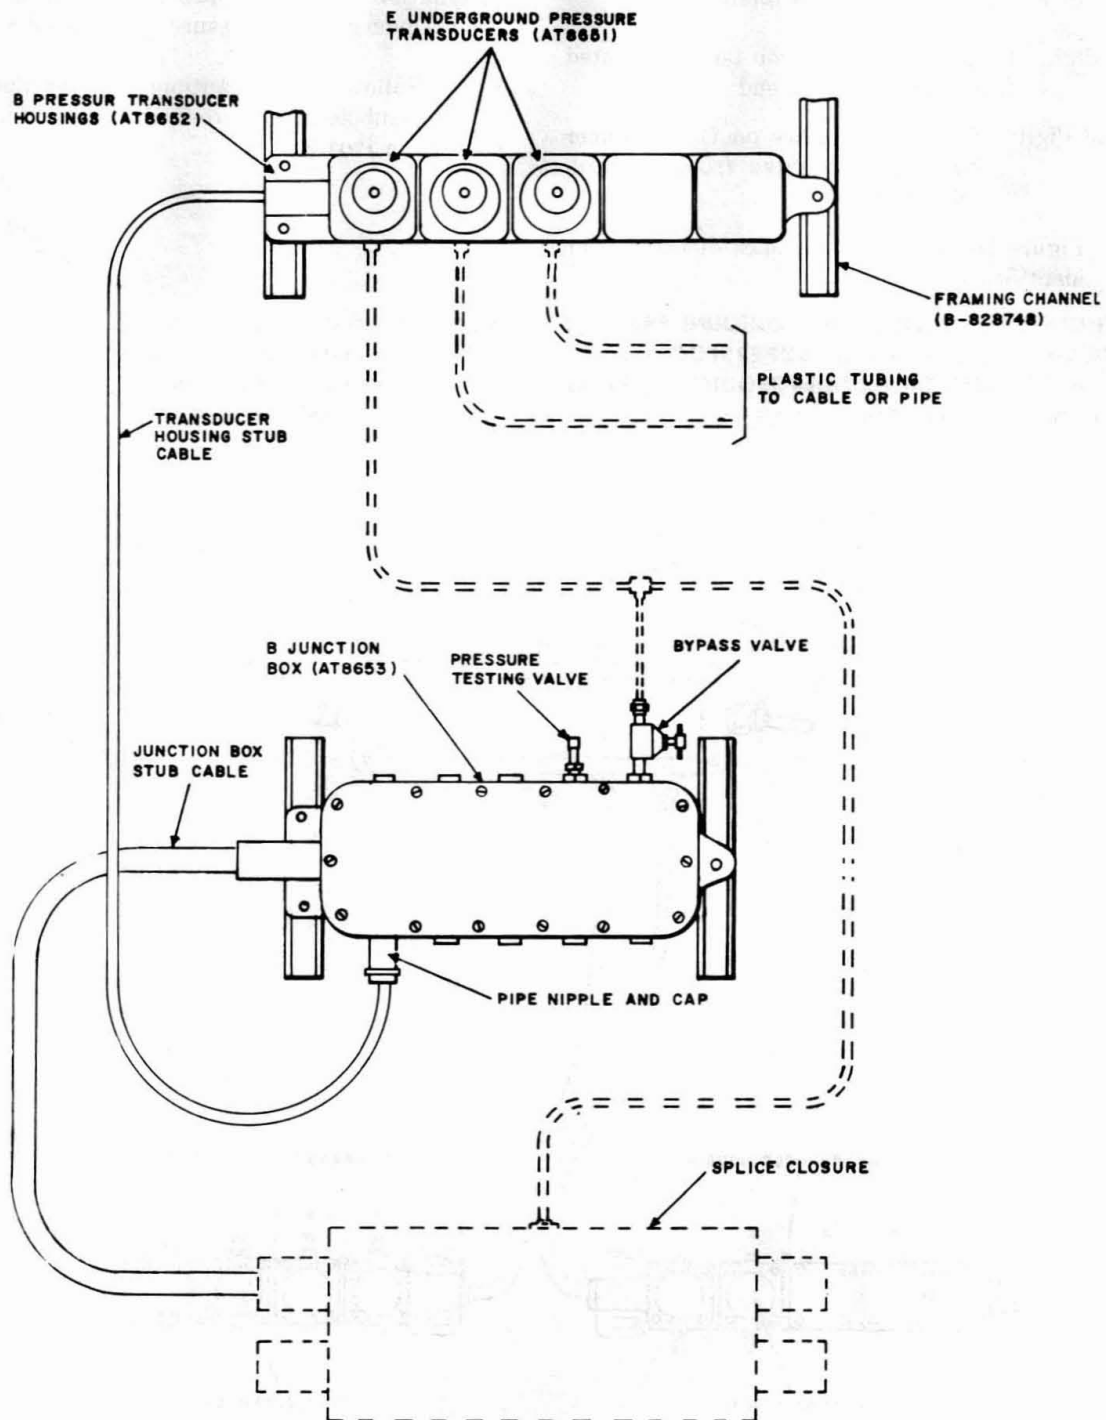

Fig. 16—Example of E Pressure Transducer System Installation (Superseded)
8.01 A typical example of a superseded E Underground Pressure Transducer System installation is shown in Fig. 16. Variations of this installation may occur due to the introduction of the F Underground Pressure Transducer System.